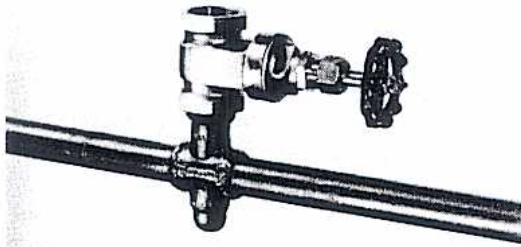

FIGURE 30
- a. Attach gate valve to top of fitting. FIGURE 30.